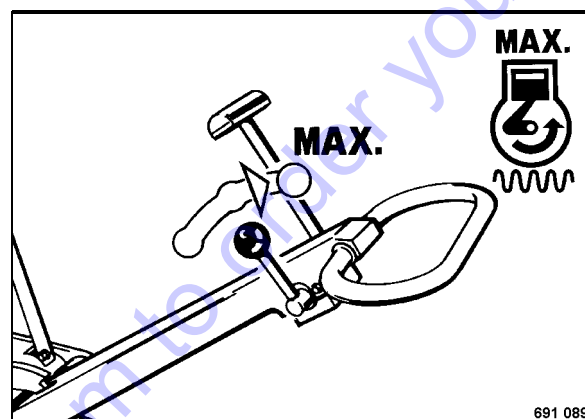

Fig. 14
- Shift the throttle lever (Fig. 14) to position "MAX" (full speed).